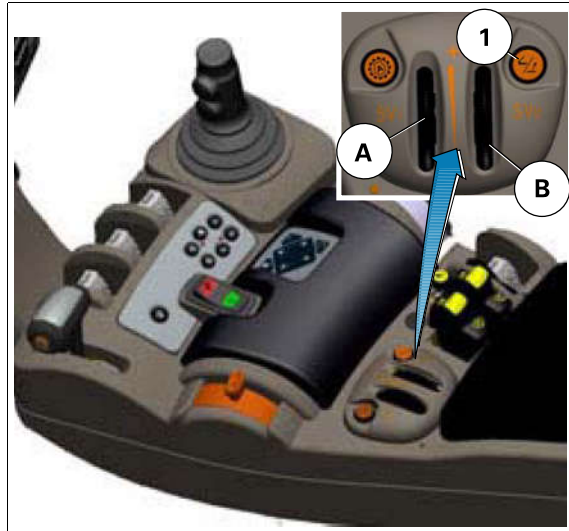

Fig. 14.
The maximum forward speed setting is set using the SV2 potentiometer (B) fig. 14
It is also possible to set the maximum engine speed to between 1400 rpm and 2260 rpm using the SV1 potentiometer (A) fig. 14.